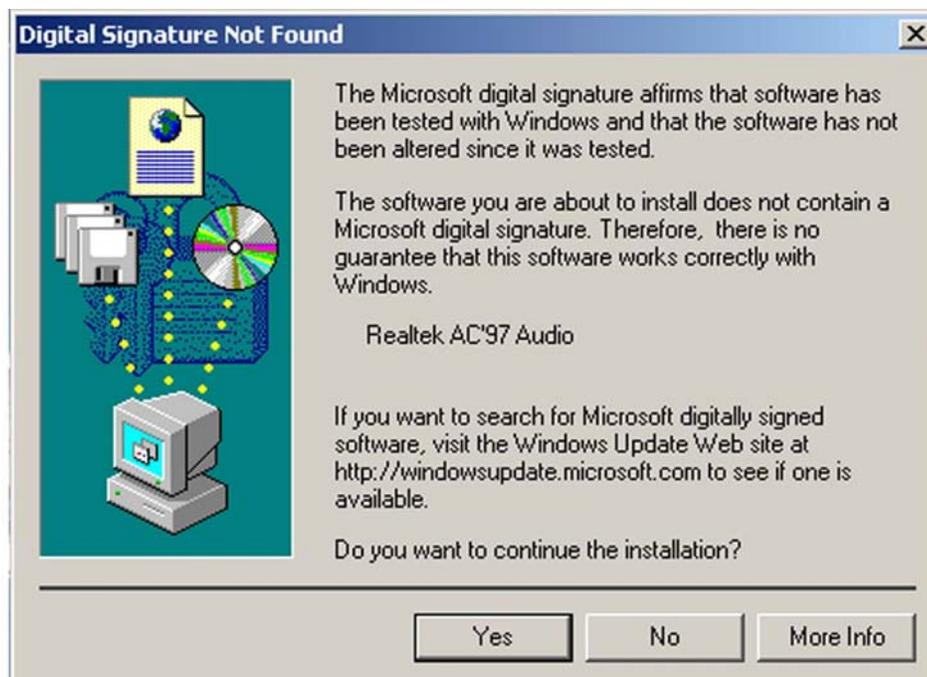

Figure 7-16: Audio Driver Digital Signal
Step 7: The “Digital Signal Not Found” screen shown in **Figure 7-16** appears. Click “YES” to continue the installation.